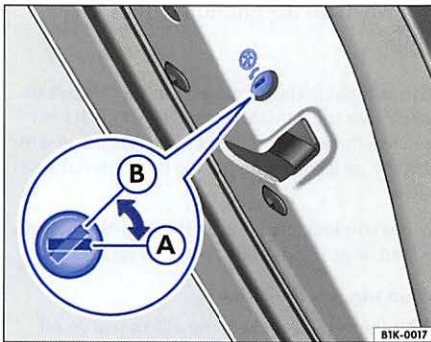
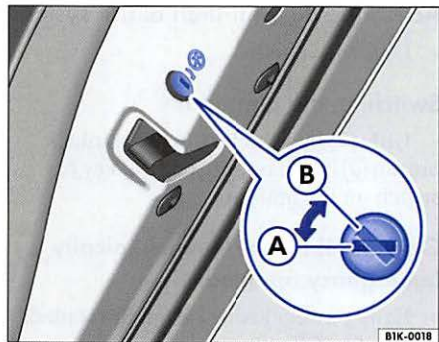

Fig. 28 Child safety lock in the rear left door: (A) switched off, (B) switched on
Fig. 29 Child safety lock in the rear right door: (A) switched off, (B) switched on
- Use a vehicle key to turn the slot in the door to the position shown in ⇒ page 33, fig. 28 (B) / ⇒ page 33, fig. 29 (B).